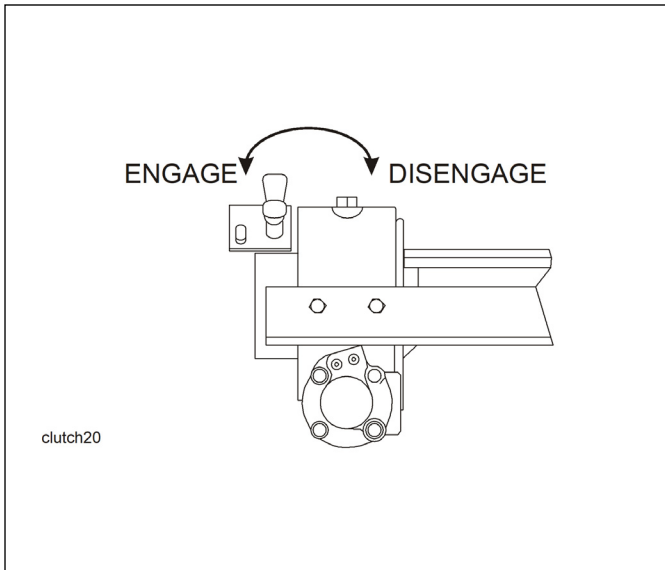

Figure 3-4: 20,000# Winch Clutch
- b. The **20,000#** winch clutch handle has two positions (**See Figure 3-4.**):